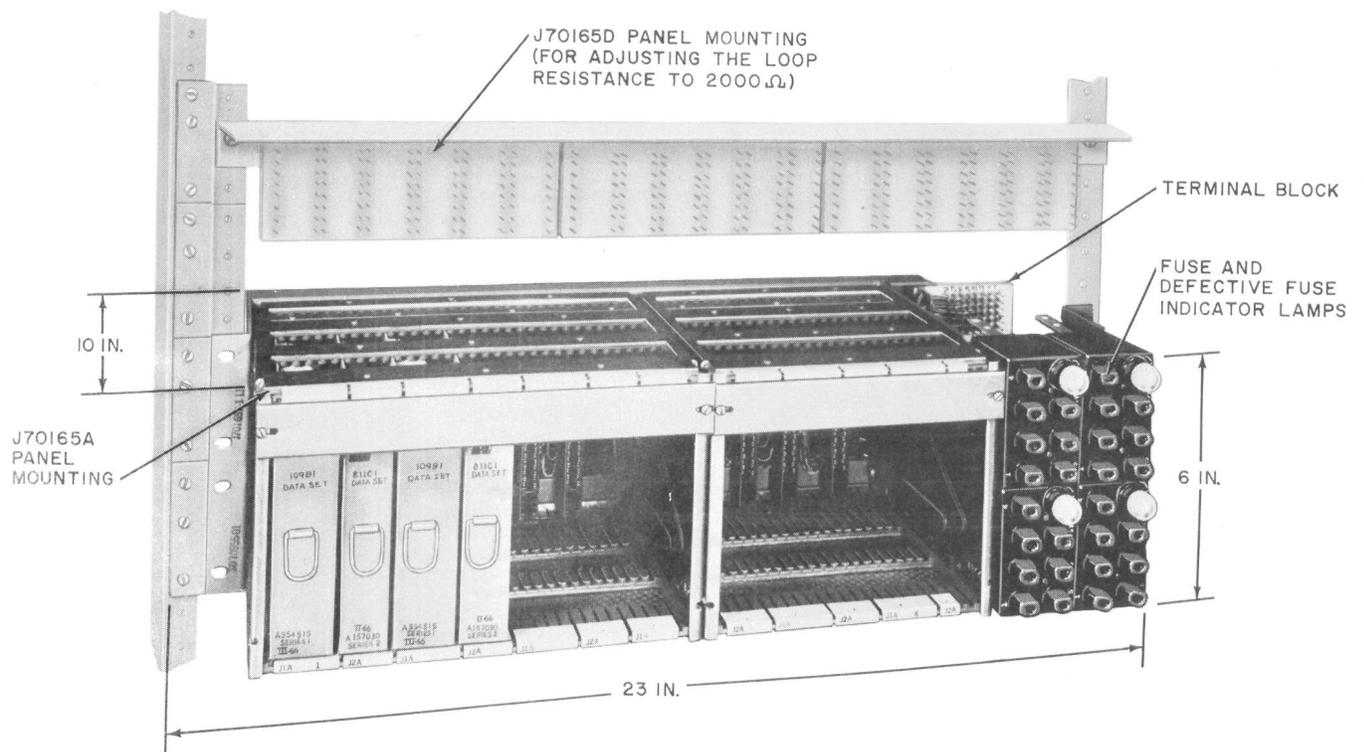

Fig. 5—Data Set 109B-Type and Data Auxiliary Set 811C Installed in Panel J70165A With Attached J70165D Panel
2.03 The Data Set 109B type and Data Auxiliary Set 811C are both inserted into a J70165A Mounting Panel which provides the necessary fuses and connections to central office battery for proper operation of the sets. The J70165A is designed for rack mounting in a 23-inch mounting space and occupied 6 inches of space as shown in Fig. 5.